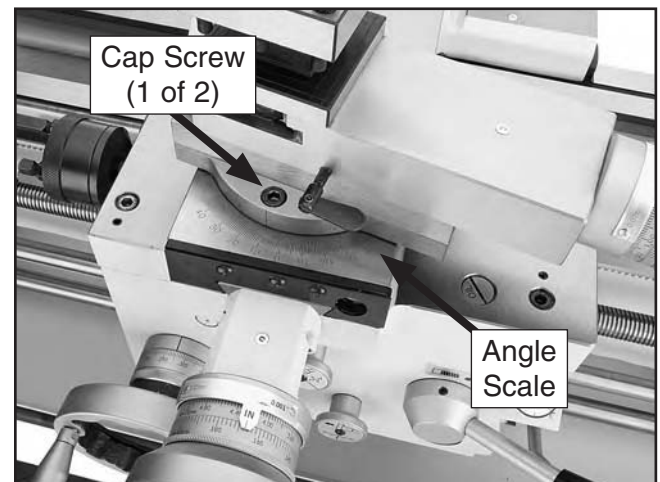

Figure 67. Compound rest angle controls.
1. Loosen the two cap screws on both sides of the rest (1 of 2 shown in **Figure 67**).